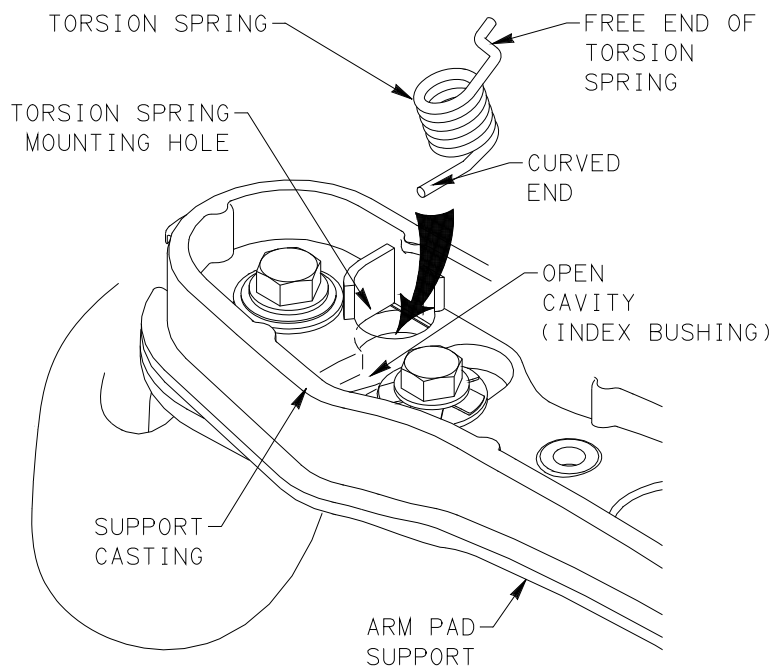

FIGURE 4
5. INSTALL TORSION SPRING INTO ARM PAD SUPPORT BY INSERTING CURVED END OF TORSION SPRING INTO OPEN CAVITY OF INDEX BUSHING THROUGH TORSION SPRING MOUNTING HOLE. TORSION SPRING SHOULD BE PARTIALLY SEATED INTO MOUNTING HOLE WITH FREE END OF TORSION SPRING RESTING ON SUPPORT CASTING. SEE FIGURE 4.